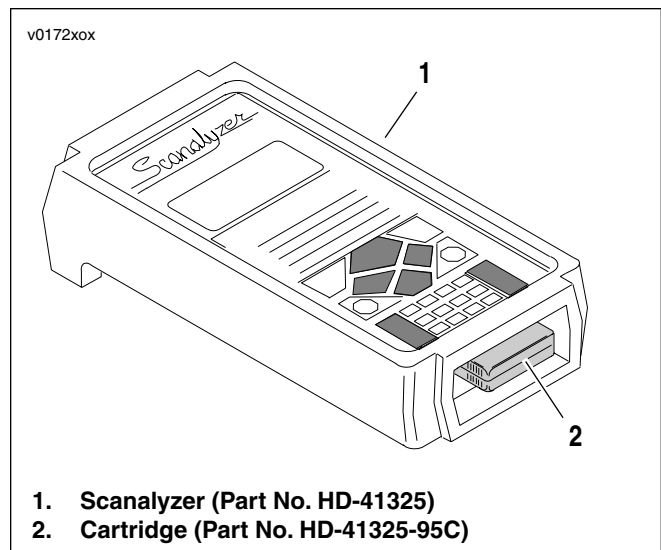
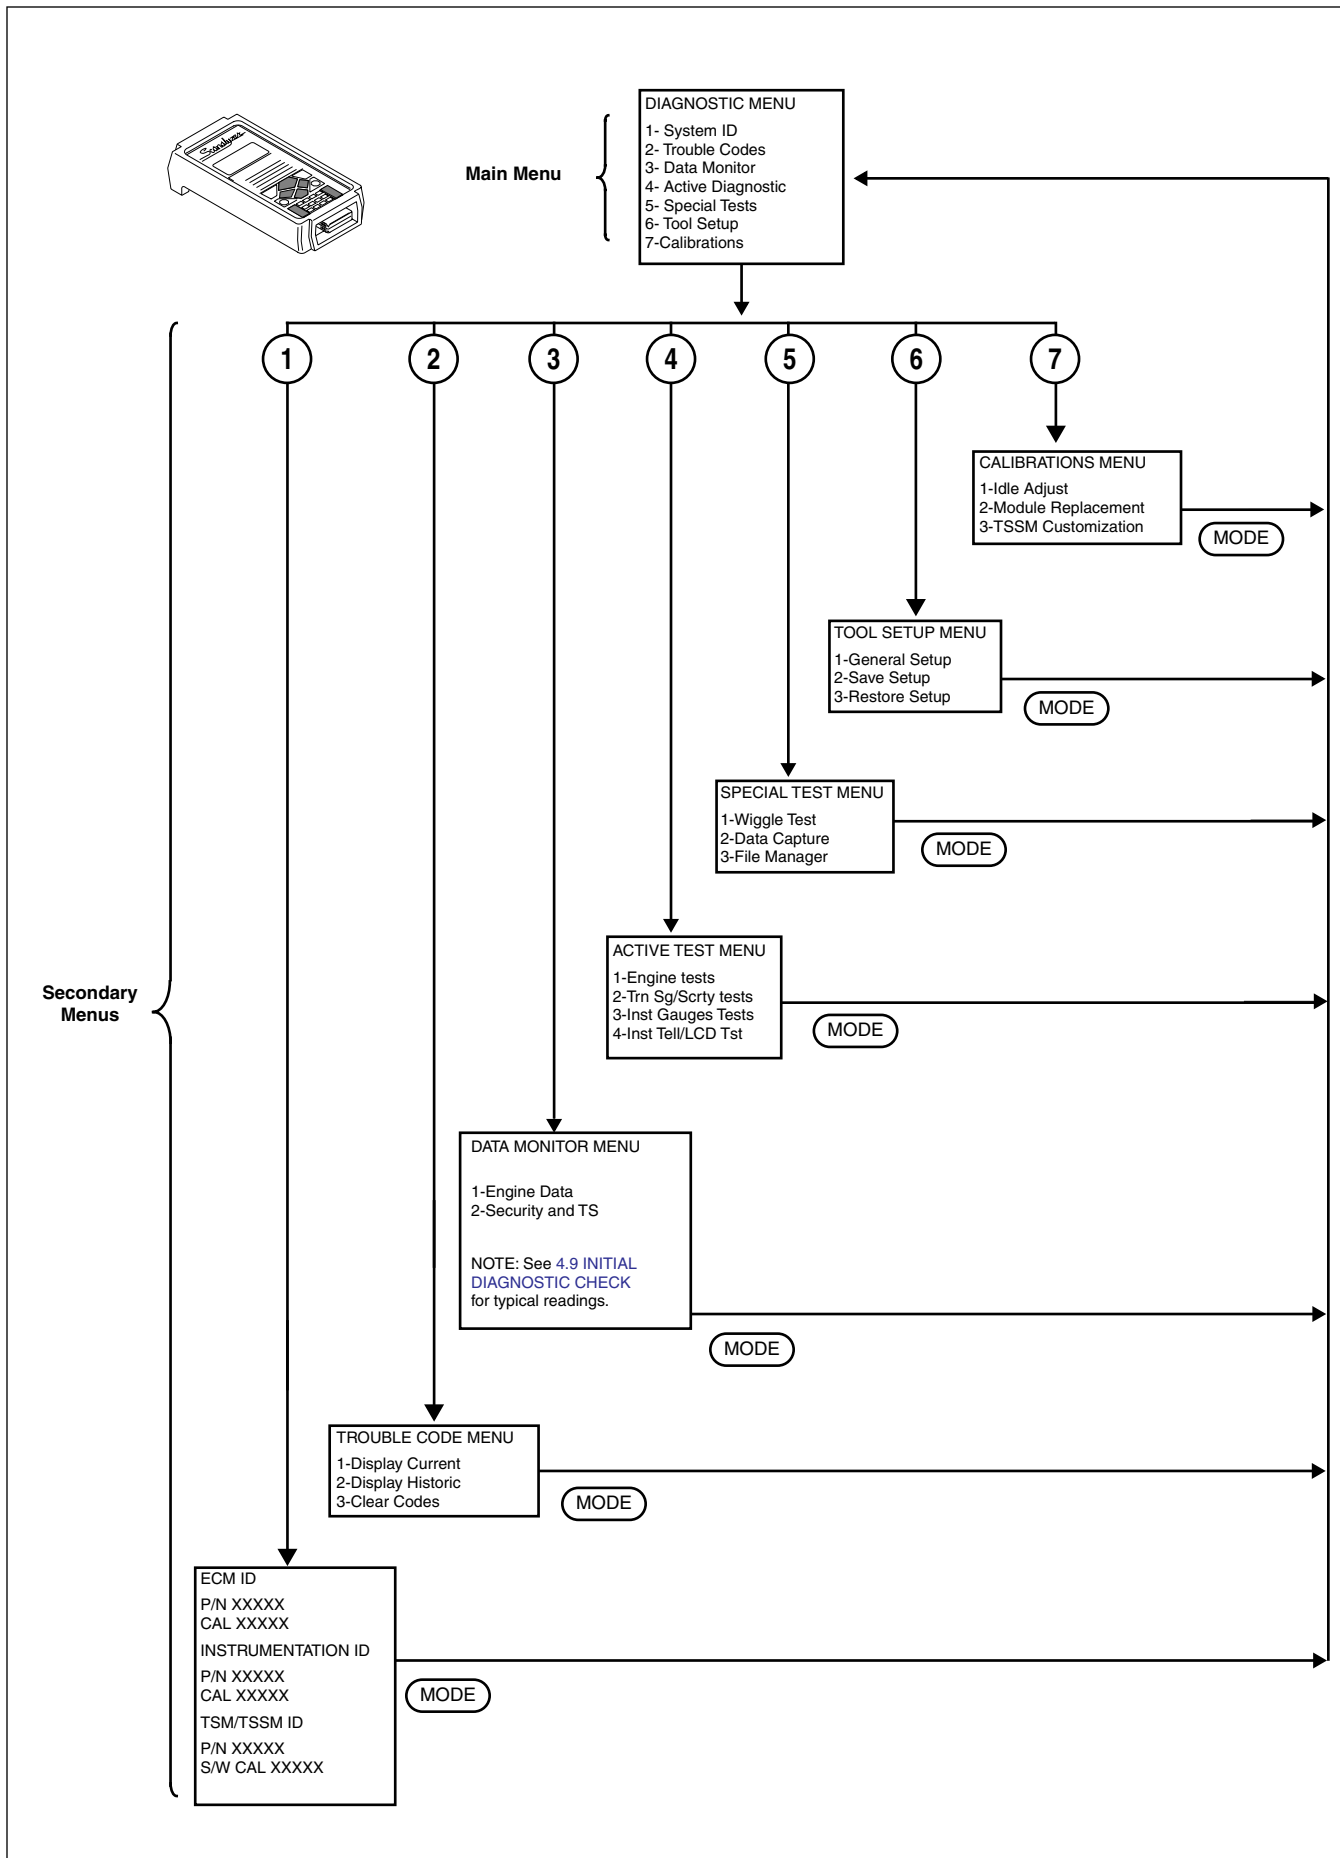

Figure 2-5. Scanalyzer and Cartridge
Figure 2-6. Scanalyzer Menus
See Figure 2-5. Through a special programmable application cartridge, the Scanalyzer offers data displays and menu selections that allow for quick and easy retrieval of data. The device enables the user to perform a variety of diagnostic tests while monitoring inputs and outputs.
Sample Scanalyzer menu selections are shown in Figure 2-6.
5. See Figure 2-5. Insert the diagnostic application cartridge (2) into the Scanalyzer (1). During the next few seconds, the Scanalyzer sequences through a series of screens that reflect a power-on self test, the system copyright, and then an attempt at communications with the ECM, IM and turn signal module (TSM) or turn signal security module (TSSM). Once communication is established between the modules, the diagnostic menu appears. See Figure 2-6.
See Figure 2-6. The diagnostic menu is the primary system menu (main menu) through which all other secondary menus and displays are accessed. Since the screen may not be large enough to display all line items at any given time, use the up and down arrow keys to scroll through the list.